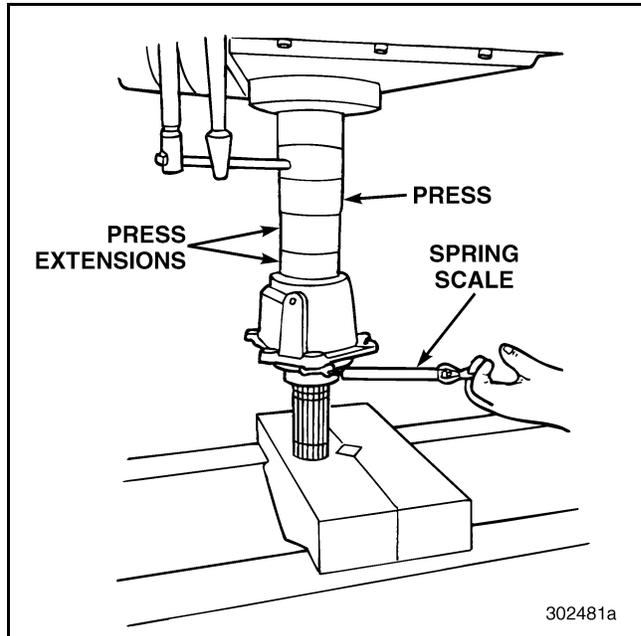

Figure 353 — Setup for Bearing Preload Adjustment Using Collapsible Spacer
9. For the collapsible-type spacer, wrap several turns of cord around the pilot area of the output housing and attach a spring tension scale, such as J 8129 or equivalent, to the cord. Refer to Figure 353.